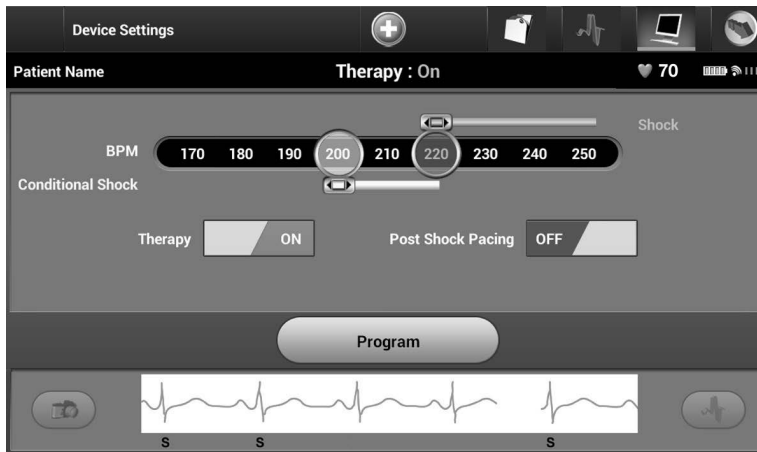

Figure 30: Setting the On/Off Therapy switch
4. Select the On/Off Therapy switch to set the desired therapy mode (Figure 30).